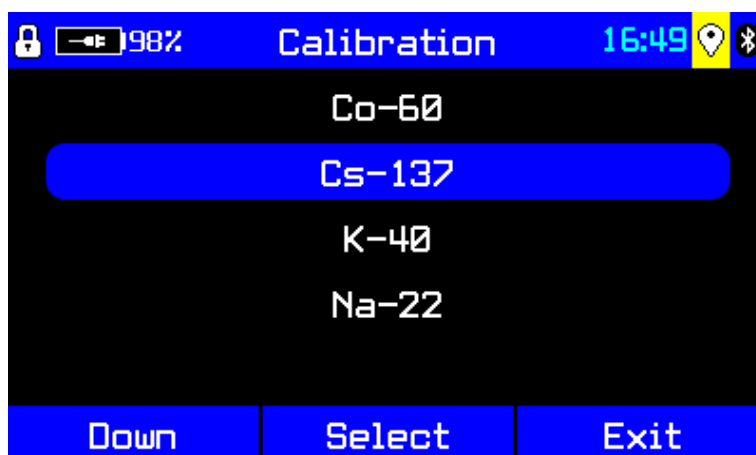

Figure 6-53: Calibration menu
2. Highlight the name of the source you are using on the Calibration menu (Figure 6-53).